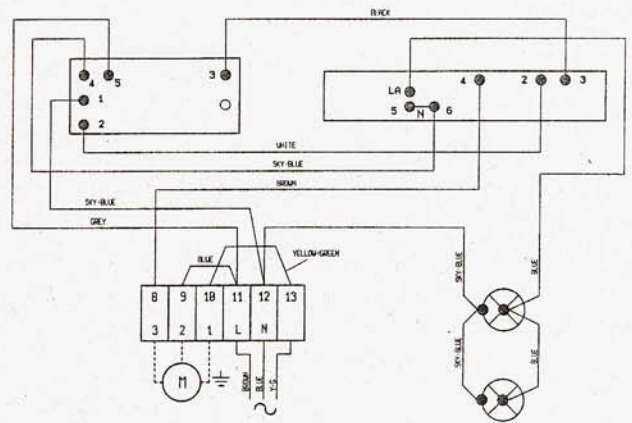

Fig. 4
- Proceed with the connection of the extractor element, situated in the evacuation conduit or on the roof, to the hood connection (Electrical diagram of Fig. 4).